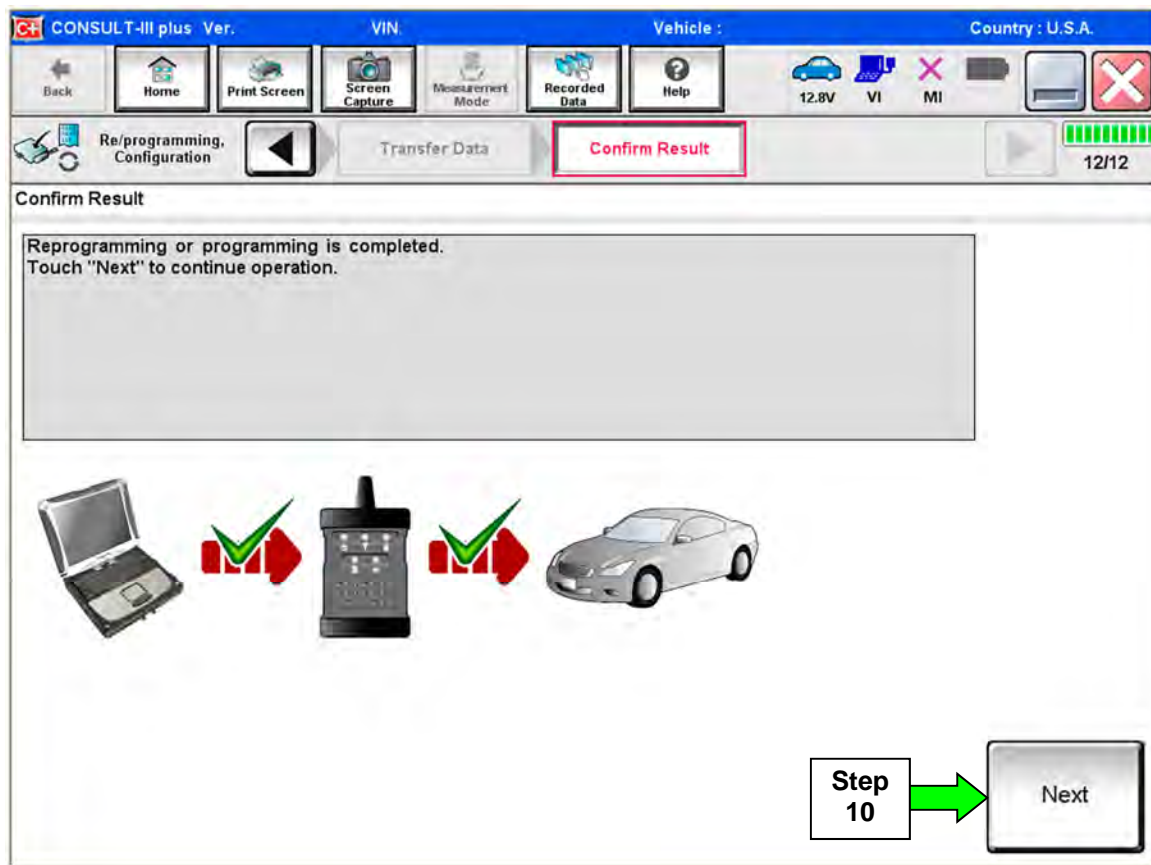

Figure 5
8. When the screen in Figure 5 displays, reprogramming is complete.
NOTE: If the screen in Figure 5 does not display (reprogramming does not complete), refer to the information on the next page.